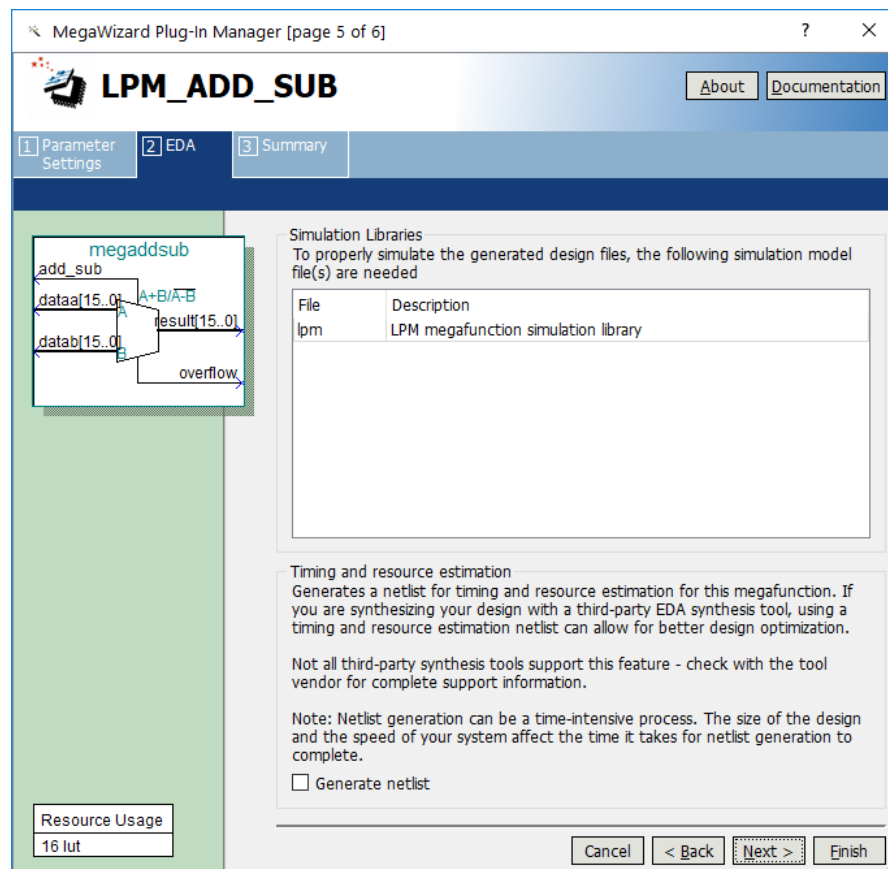

Figure 10. Simulation model files.
8. Figure 10 shows the simulation model files needed to simulate the generated design. Press **Next** to proceed to the final page.